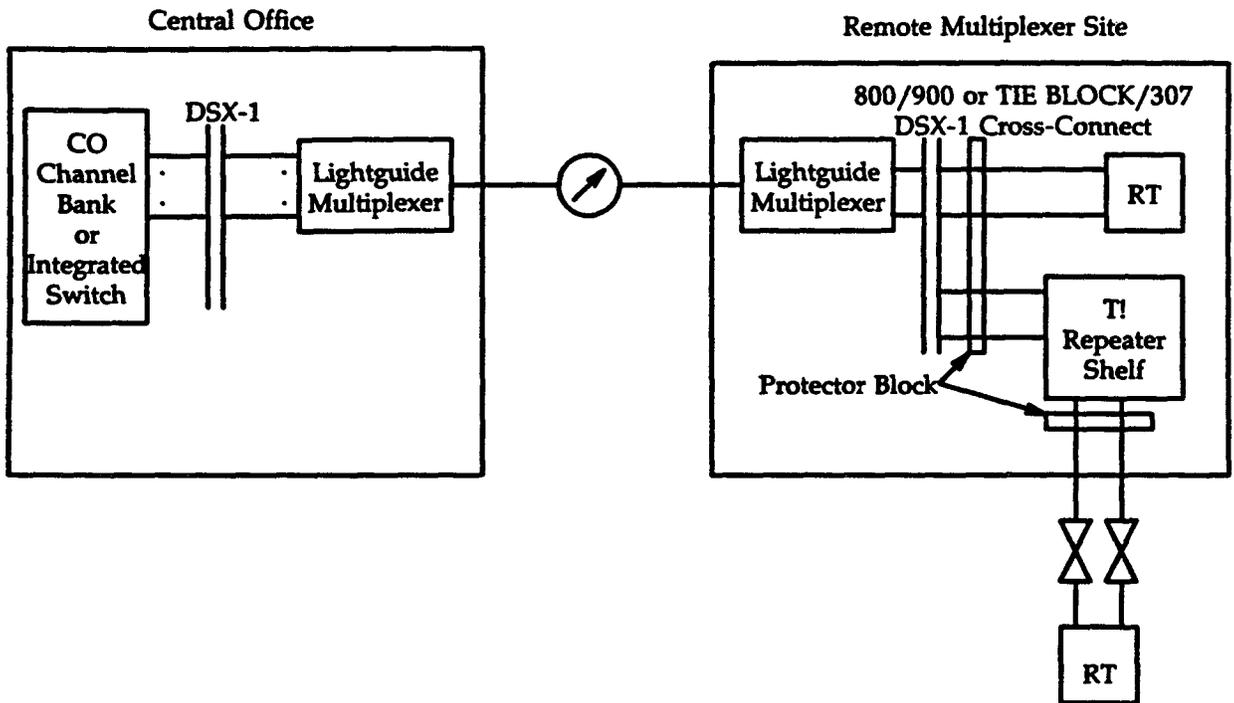

Figure 1—Block Diagram of a Typical SLC Carrier System Fiber Facility
SUMMARY: With VOM, measure Side 1 line current between +V and -I jacks on installed LIU (FIG. 1). Meter should indicate between 0.57 and 0.63 volts. Measure Side 2 line current between the +I and -V jacks; meter should indicate between 0.57 and 0.63 volts. Measure line voltage between +V and -V jacks and record measurement. Meter should read less than 138 volts. Repeat each measurement on all line-powering LIUs installed in system under test at RT (Universal SLC Series 5 Mode 96, Integrated SLC Series 5 Mode 96, or FPC Integrated) or COT and RT (Universal SLC Series 5).
2. On LIU being tested, connect negative (-) black lead to -I and positive (+) red lead of VOM to +V (FIG 1.).